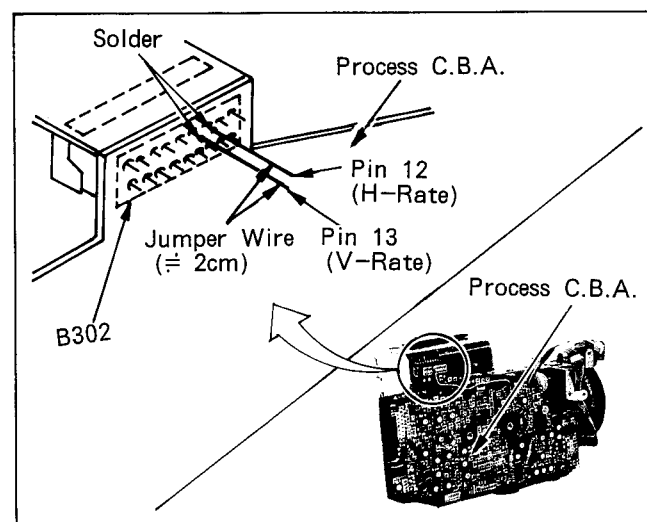

Fig. C4
4. FOR TRIGGER (Refer to Fig. C4)